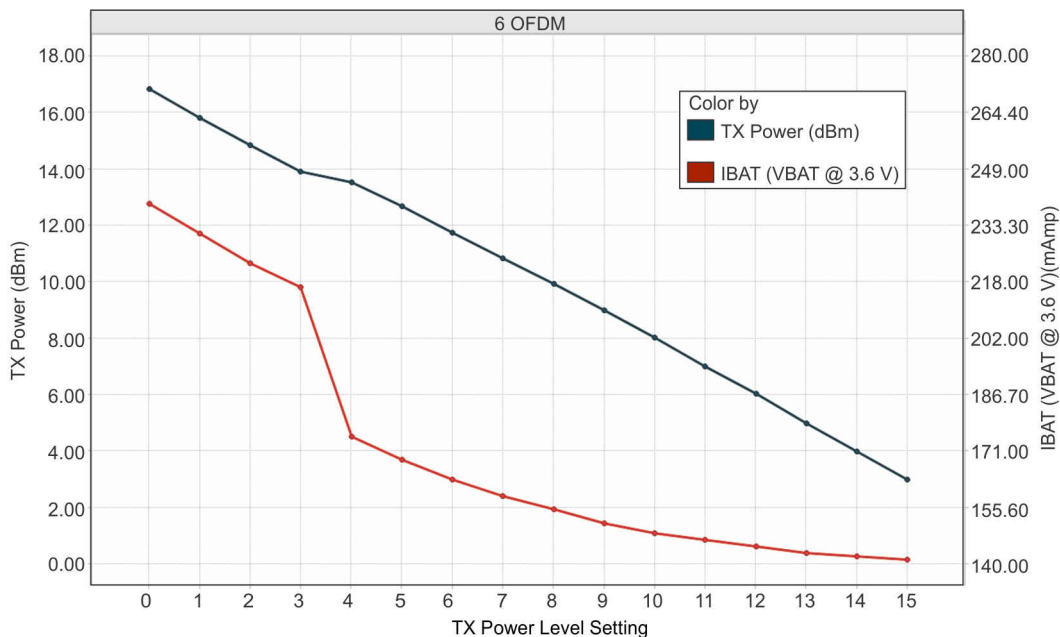
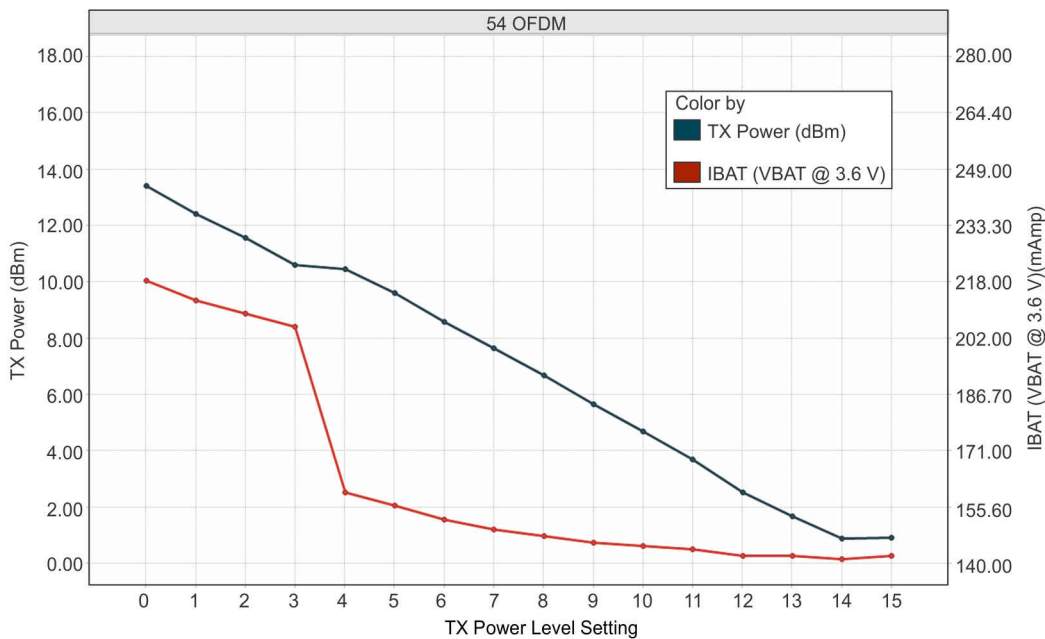

Figure 8-2. TX Power and IBAT vs TX Power Level Settings (6 OFDM)
Figure 8-3. TX Power and IBAT vs TX Power Level Settings (54 OFDM)
- (1) TX power level = 0 implies maximum power (see Figure 8-1, Figure 8-2, and Figure 8-3). TX power level = 4 implies output power backed off approximately 4 dB.
- (2) The CC3120MOD system is a constant power-source system. The active current numbers scale inversely on the V_{BAT} voltage supplied.
- (3) The RX current is measured with a 1-Mbps throughput rate.
- (4) DTIM = 1
- (5) The complete calibration can take up to 17 mJ of energy from the battery over a time of 24 ms. In default mode, calibration is performed sparingly, typically when re-enabling the NWP and when the temperature has changed by more than 20°C . There are two additional calibration modes that may be used to reduced or completely eliminate the calibration event. For further details, see the CC3120, CC3220 SimpleLink™ Wi-Fi® and IoT Network Processor Programmer's Guide.